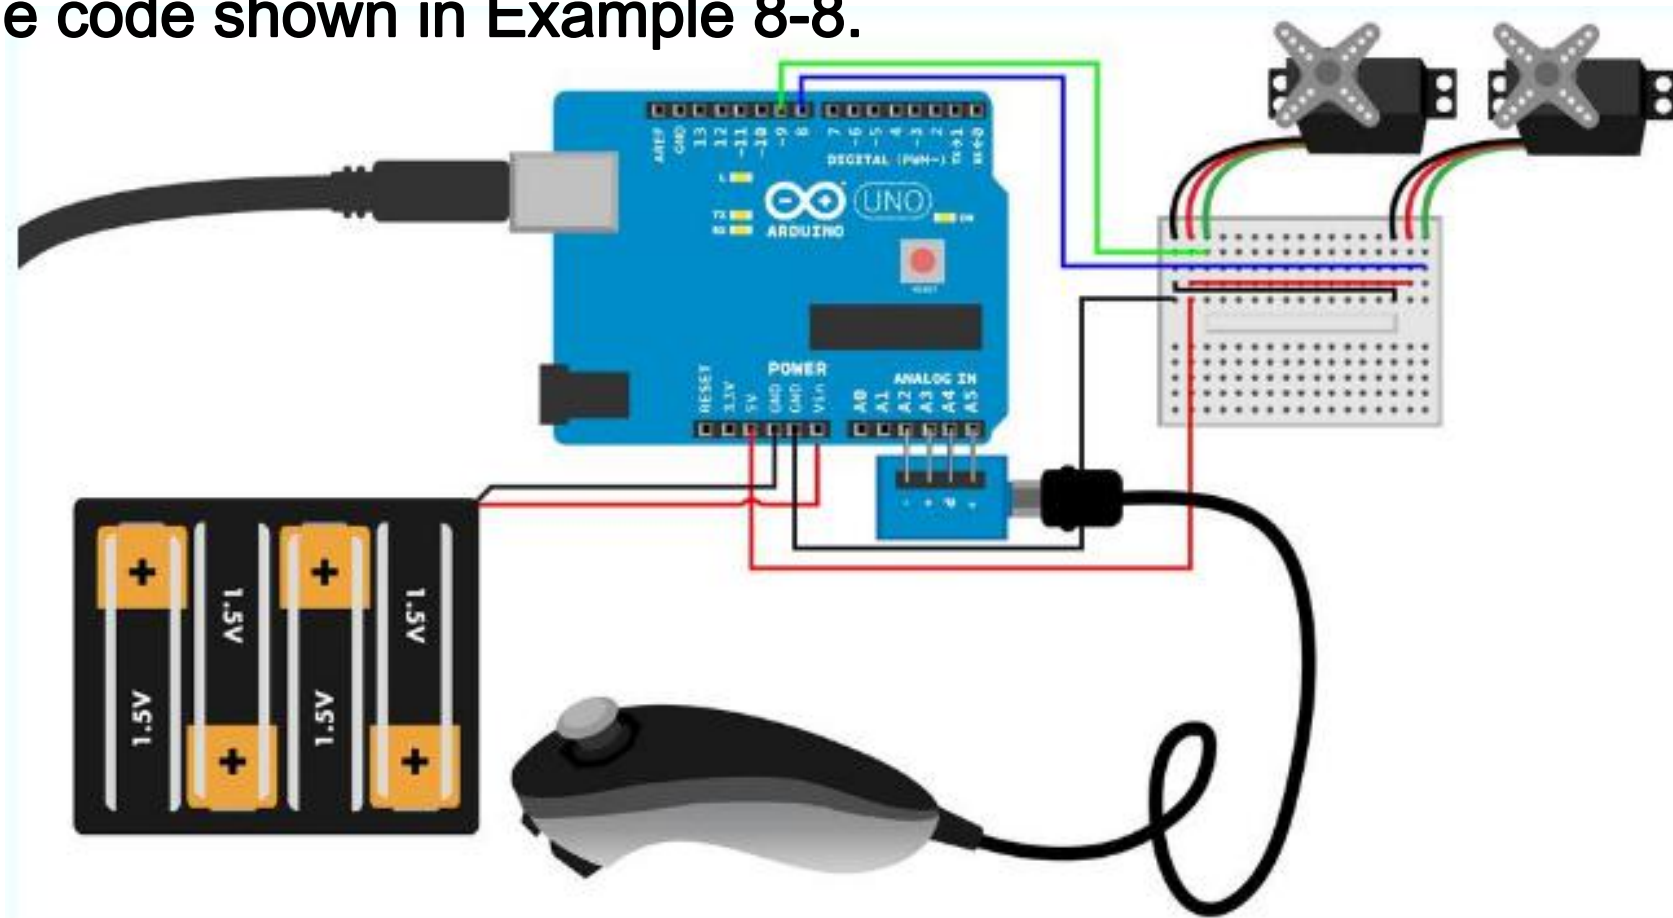

Figure 8-12. Claw circuit for Arduino
- Figure 8-12 shows the wiring diagram. Hook everything up as shown, and then run the code shown in Example 8-8.